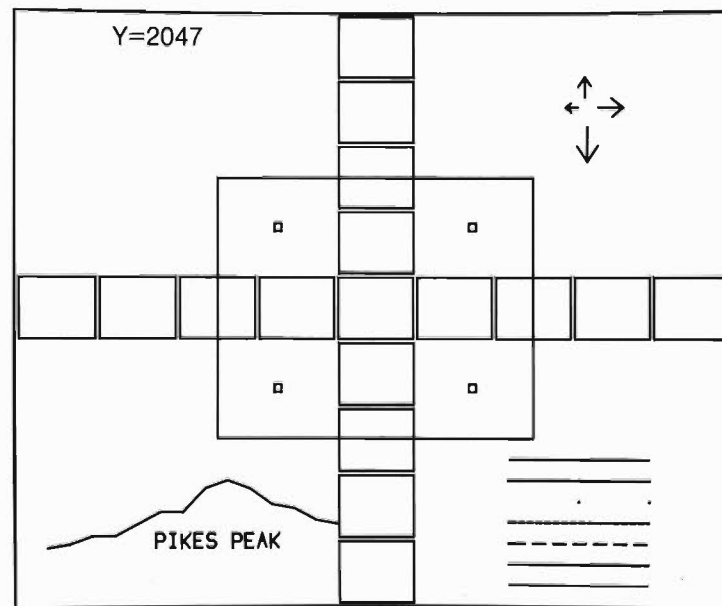

Figure 5-4. Primary Test Pattern Adjustment
- Adjust Trace Align (A1R160) to align trace horizontally. Check for a pattern on screen as shown in figure 5-4.